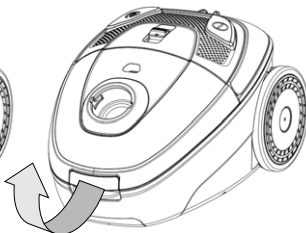

Fig 10
2. Open the front cover by clipping. (Fig 10)